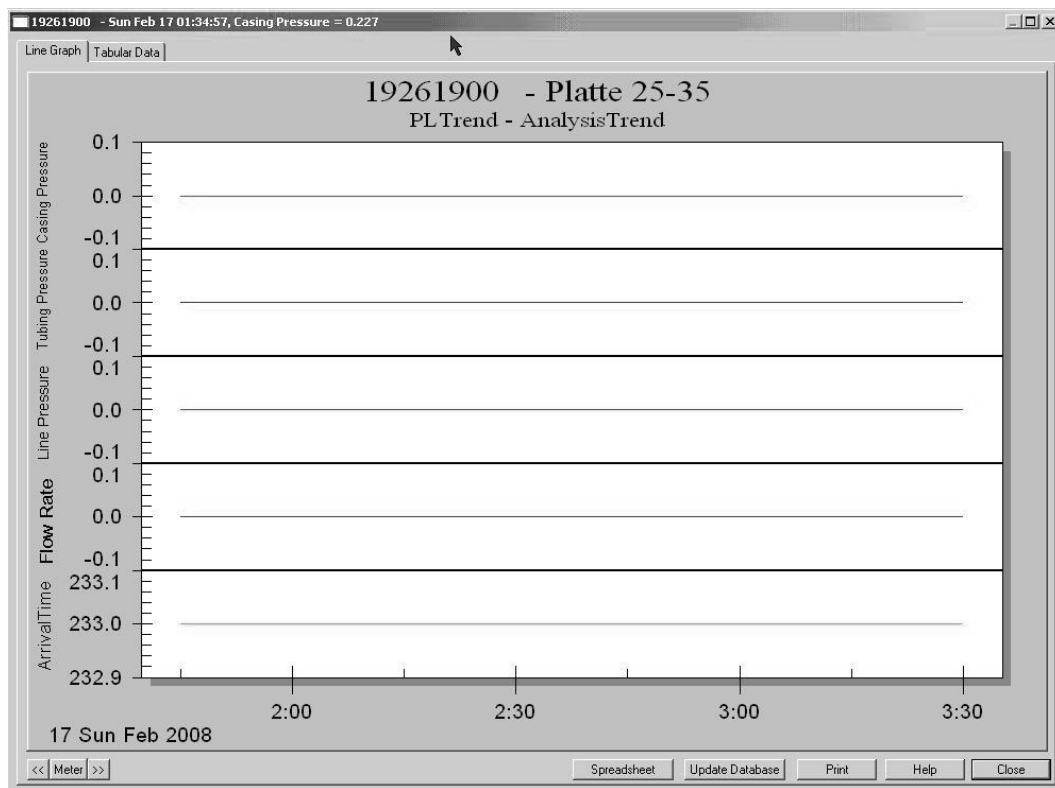

Figure 4–3 Trend File – Line Graph
- 3) Click on the Trend System tab in the Local Remote screen, and then click on Device Trend to access the Trend Directory on the device (see Figure 4–1).
- 4) The user will need to browse to the trend system on the unit by clicking the drop-down arrow within the Path field (see Figure 4–2) and selecting the trend they would like to download from the list displayed.
- 7) Once this has been accomplished, the data will be collected and displayed back to the user in PCCU in a graphical format (see Figure 4–3). Additionally, the user is given the option to view the tabular data (see Figure 4–4) on the other tab.
As the user can view in Figure 4–4, the data is being logged in five minute intervals, as defined earlier in the manual when setting up the trend file. The trend file is a FIFO (first in – first out) file. This means that when the trend file fills up to the last record, the first record will be deleted to make room for the next most recent record. In this way, the user will always have the most up-to-date data in the file.